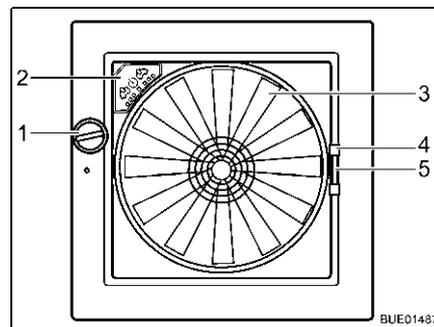

Fig. 116 Skylight Omni-Vent
*Opening:* ■ Turn the knob (Fig. 116,1) until the desired opening angle is reached.
*Closing:* ■ Turn the knob (Fig. 116,1) until the skylight is fully closed.
*Closing:* ■ Using the handle (Fig. 116,4) pull the insect screen across to the other side of the frame.
*Closing:* ■ Press together the handle (Fig. 116,5) of the shade.
**Fan** If the skylight is open, the interior can be ventilated with the 6-speed fan (Fig. 116,3). The fan is operated via the operating panel (Fig. 116,2).